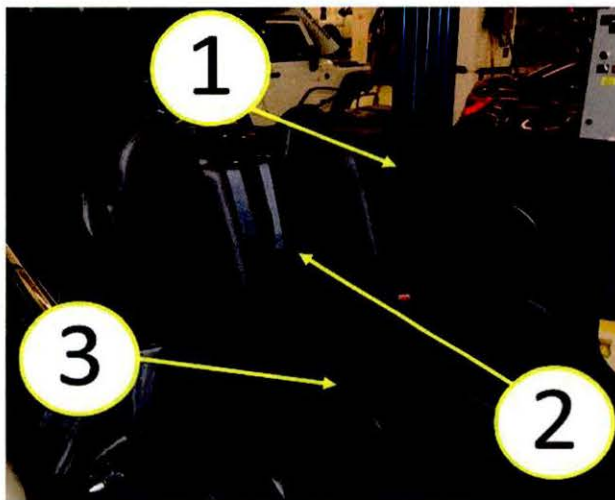

Fig. 12 Trim Panel And Seat Installation
15. Install the left rear quarter trim panel (1), rear seat back (2), rear shelf/retractor/seat back cover, and rear seat cushion (3). Refer to the detailed repair procedures available in: DealerConnect> TechCONNECT under: 23 - Body> Interior> PANEL, Quarter Trim> Installation> CONVERTIBLE (Fig. 12).